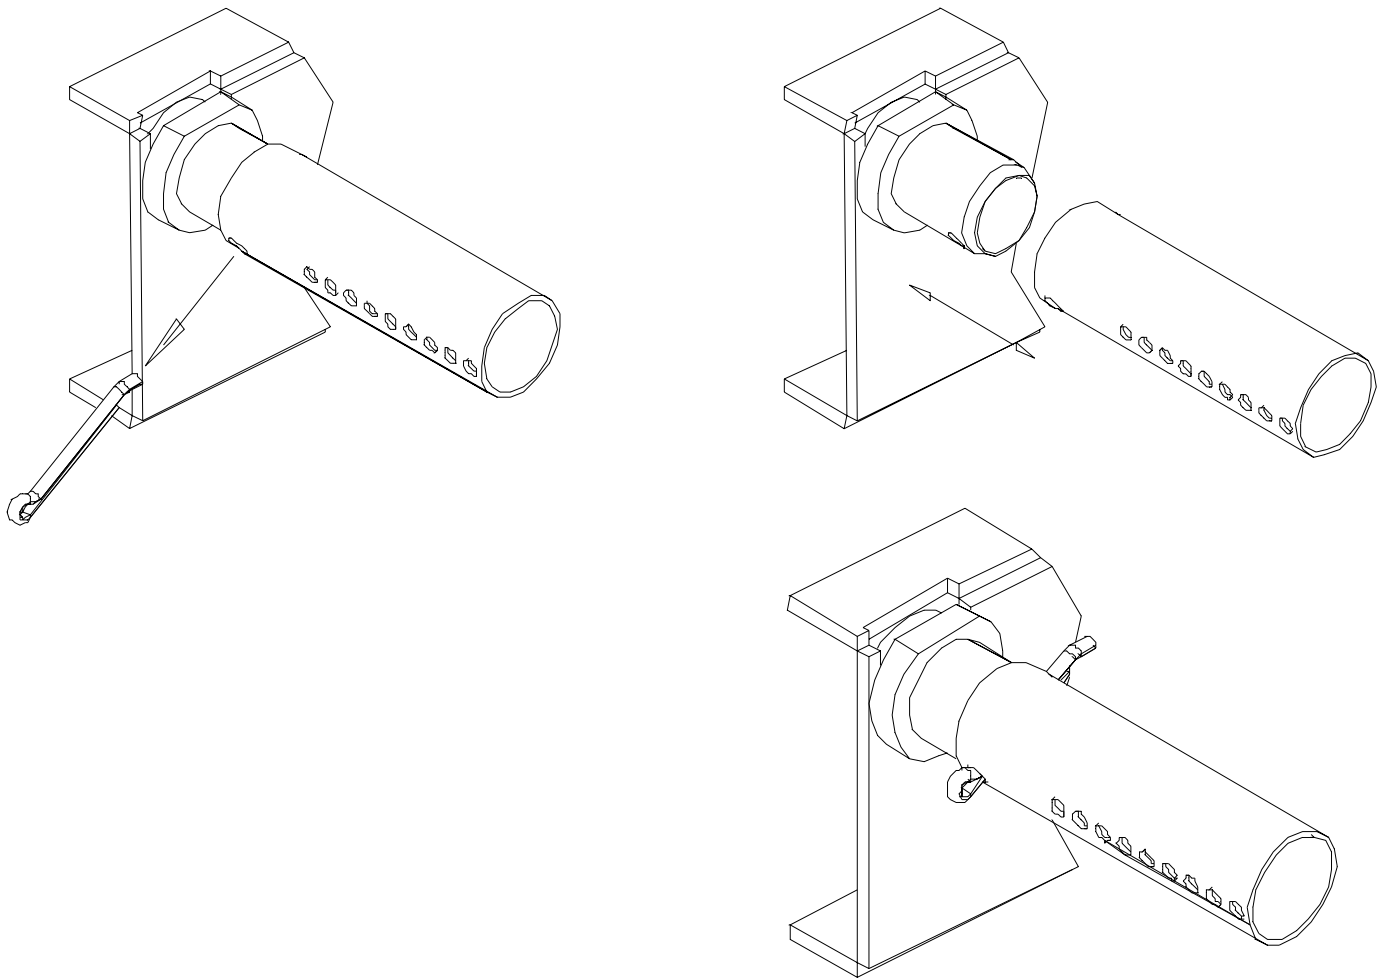

Figure 3.4 – Secondary Air Tube replacement
8. Install secondary air tube ensuring air holes face forward. Install cotter pin as per Figure 3.4
(See Figure 3.4)